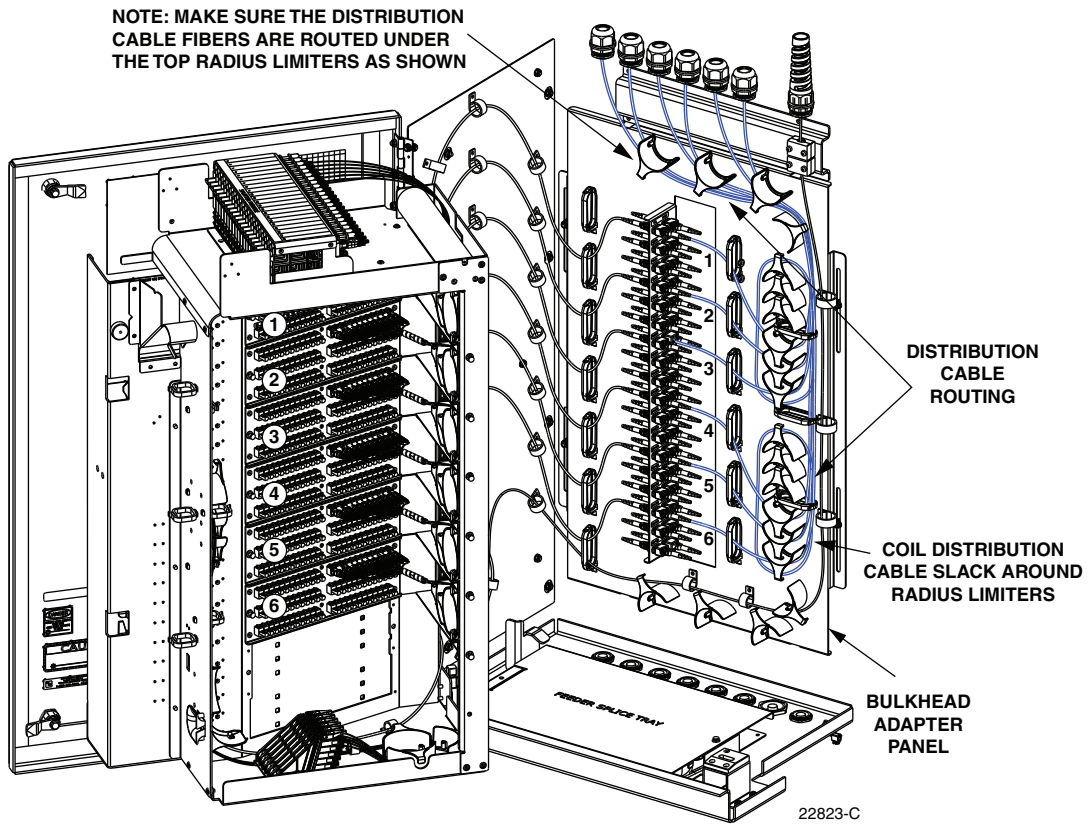

Figure 52. Routing Distribution Cables to Bulkhead Adapter Panel
11. Route each distribution cable to the appropriate adapter on bulkhead adapter panel as shown in Figure 52.